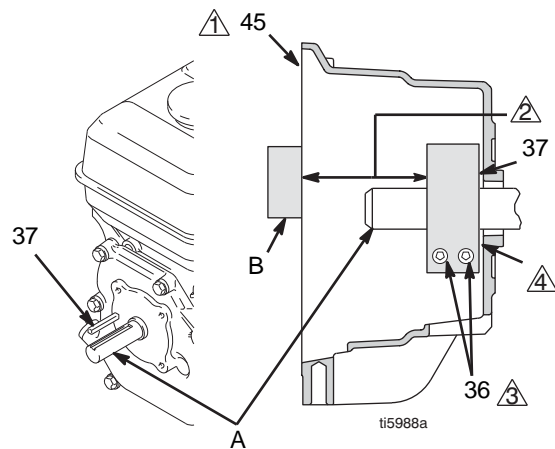

FIG. 10
4. FIG. 10. Loosen two screws (36) on clamp (38),
5. Push screwdriver into slot in clamp (38) and remove clamp.
1. FIG. 10 Install engine shaft key (37)
2. Tap clamp (38) onto engine shaft (A). Maintain dimension shown note 2. Chamfer must face engine.
3. Check dimension: Place rigid, straight steel bar (B) across face of clutch housing (45). Use accurate measuring device to measure distance between bar and face of clamp. Adjust clamp as necessary. Torque two screws (36) to  $125 \pm 10$  in-lb ( $14 \pm 1.1$  N·m)
4. Install armature (39) on engine drive shaft.
5. Install four screws (36) and lock washers (35) with torque of 125 in-lb.